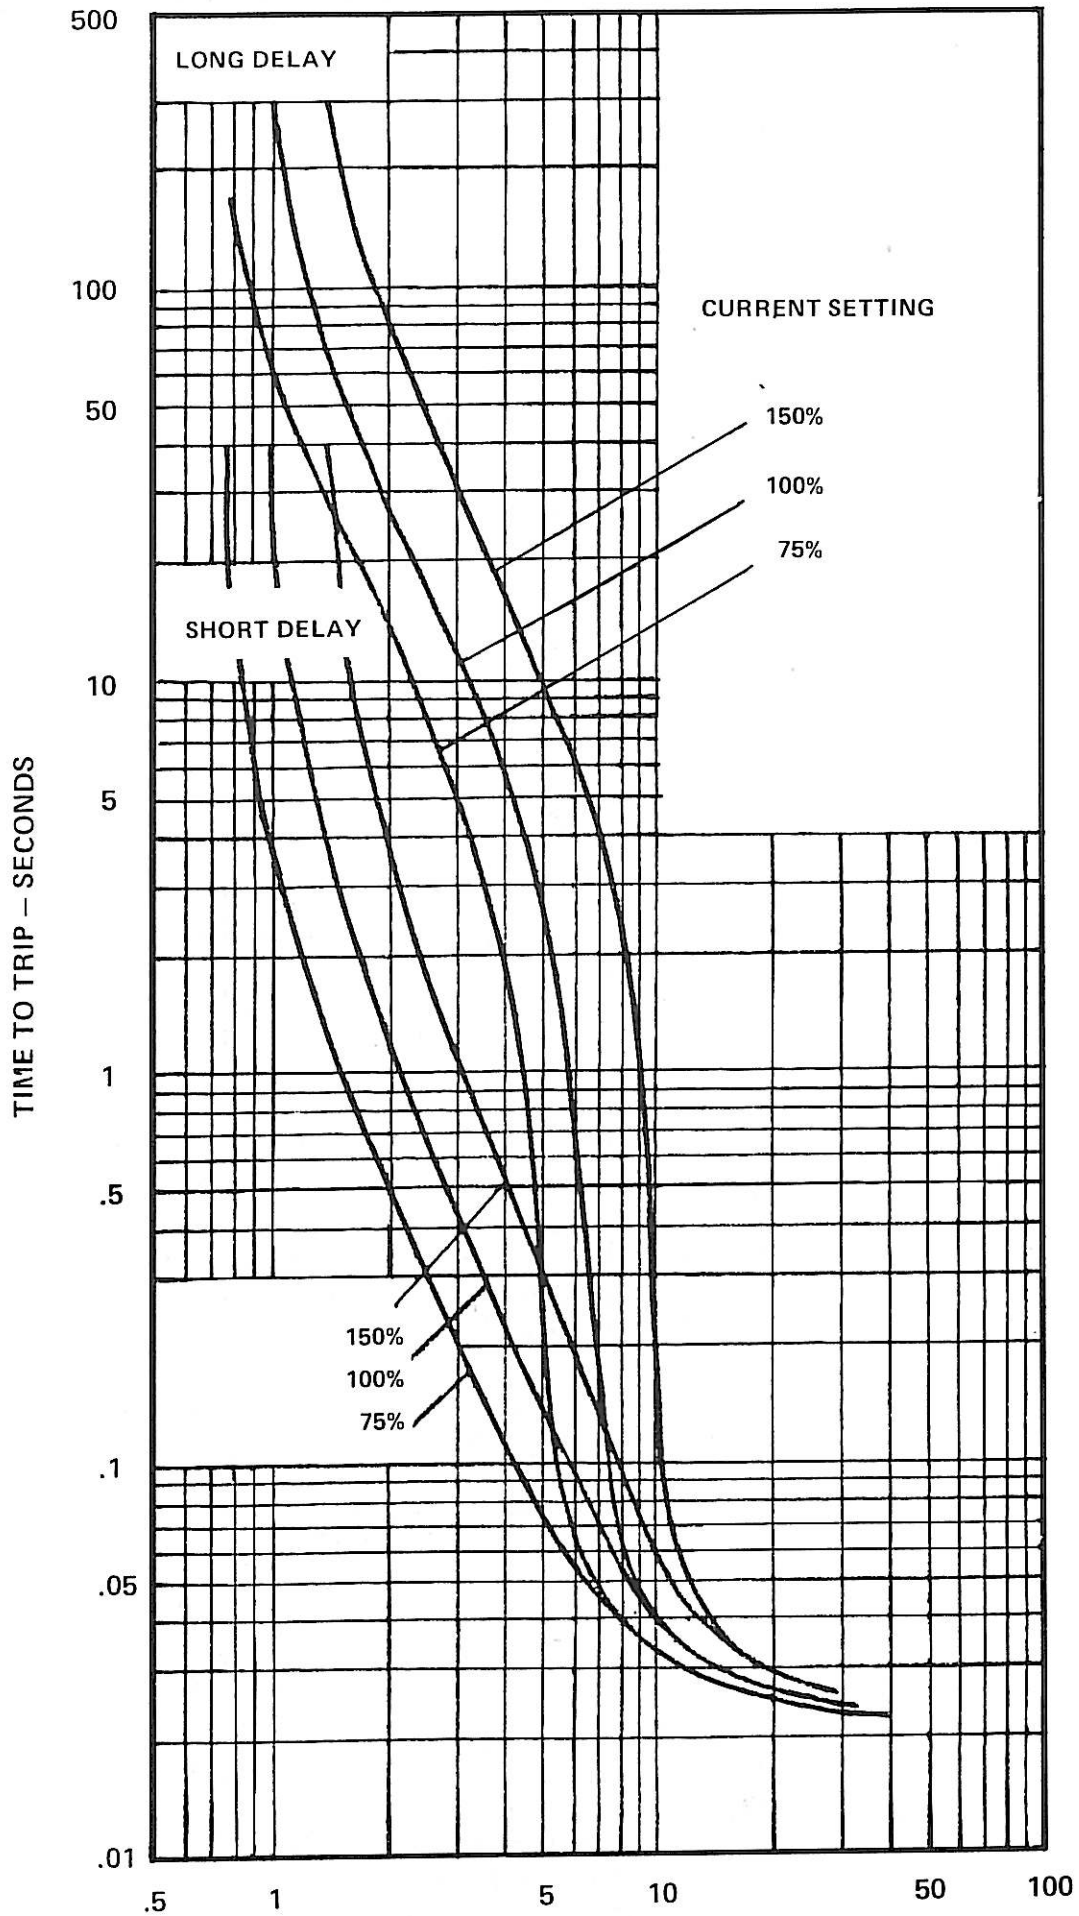

FIG 4 CURRENT - TIMES RATED I
- (a) 'OMA8' Breaker, 800 amp., dashpot current setting 100%, plunger time setting 'short'. For an overload of 3200 amp. i.e. 4 times 800 amp. the time lag can be estimated from Fig. 4 as 0.22 seconds. For a short circuit current of 20000 amp. i.e. 25 x 800 amp., the time lag is 0.025 seconds.